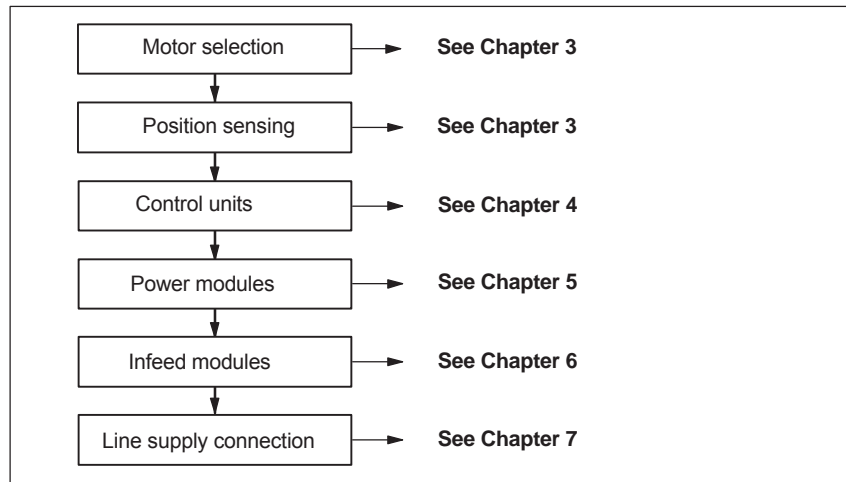

Fig. 1-4 Selecting components
- Phase 1            Selecting the components            (refer to Fig. 1-4)